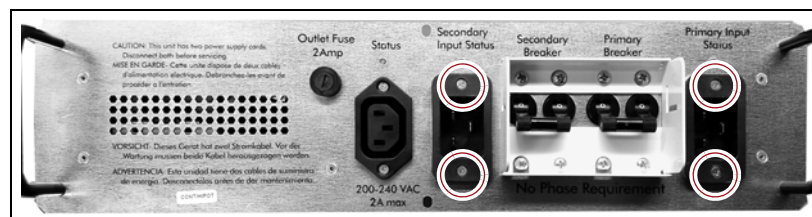

Figure 299 Remove the screws securing the input plugs to the AC power module (Dual AC2 shown).
6. Using a #2 Phillips screwdriver, remove the two screws securing each of the two input plugs to the dual AC module (circled in Figure 299).